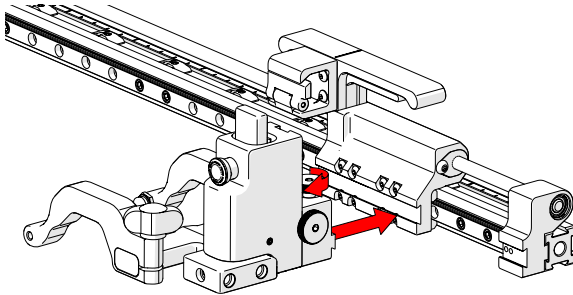

Fig. 47 - Mount probe holder to carrier
1. Loosen the probe holder adjustment knob (*Fig. 47*) and mount the heavy duty vertical probe holder's dovetail jaw to the carrier.